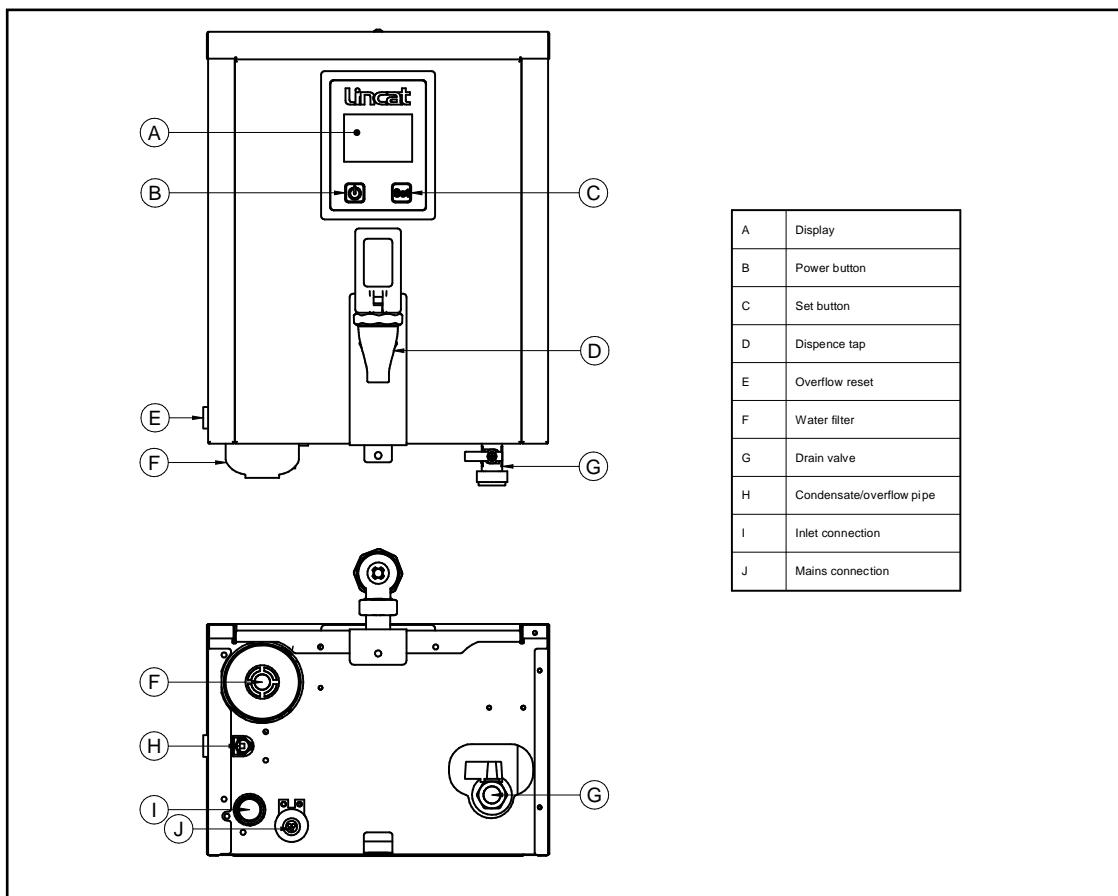

Fig 2
Connect the condensate/overflow pipe (Fig 2 B) to a suitable drain, considering any applicable local water regulations.
- Drain all the water out of the tank- (Fig 2 G)